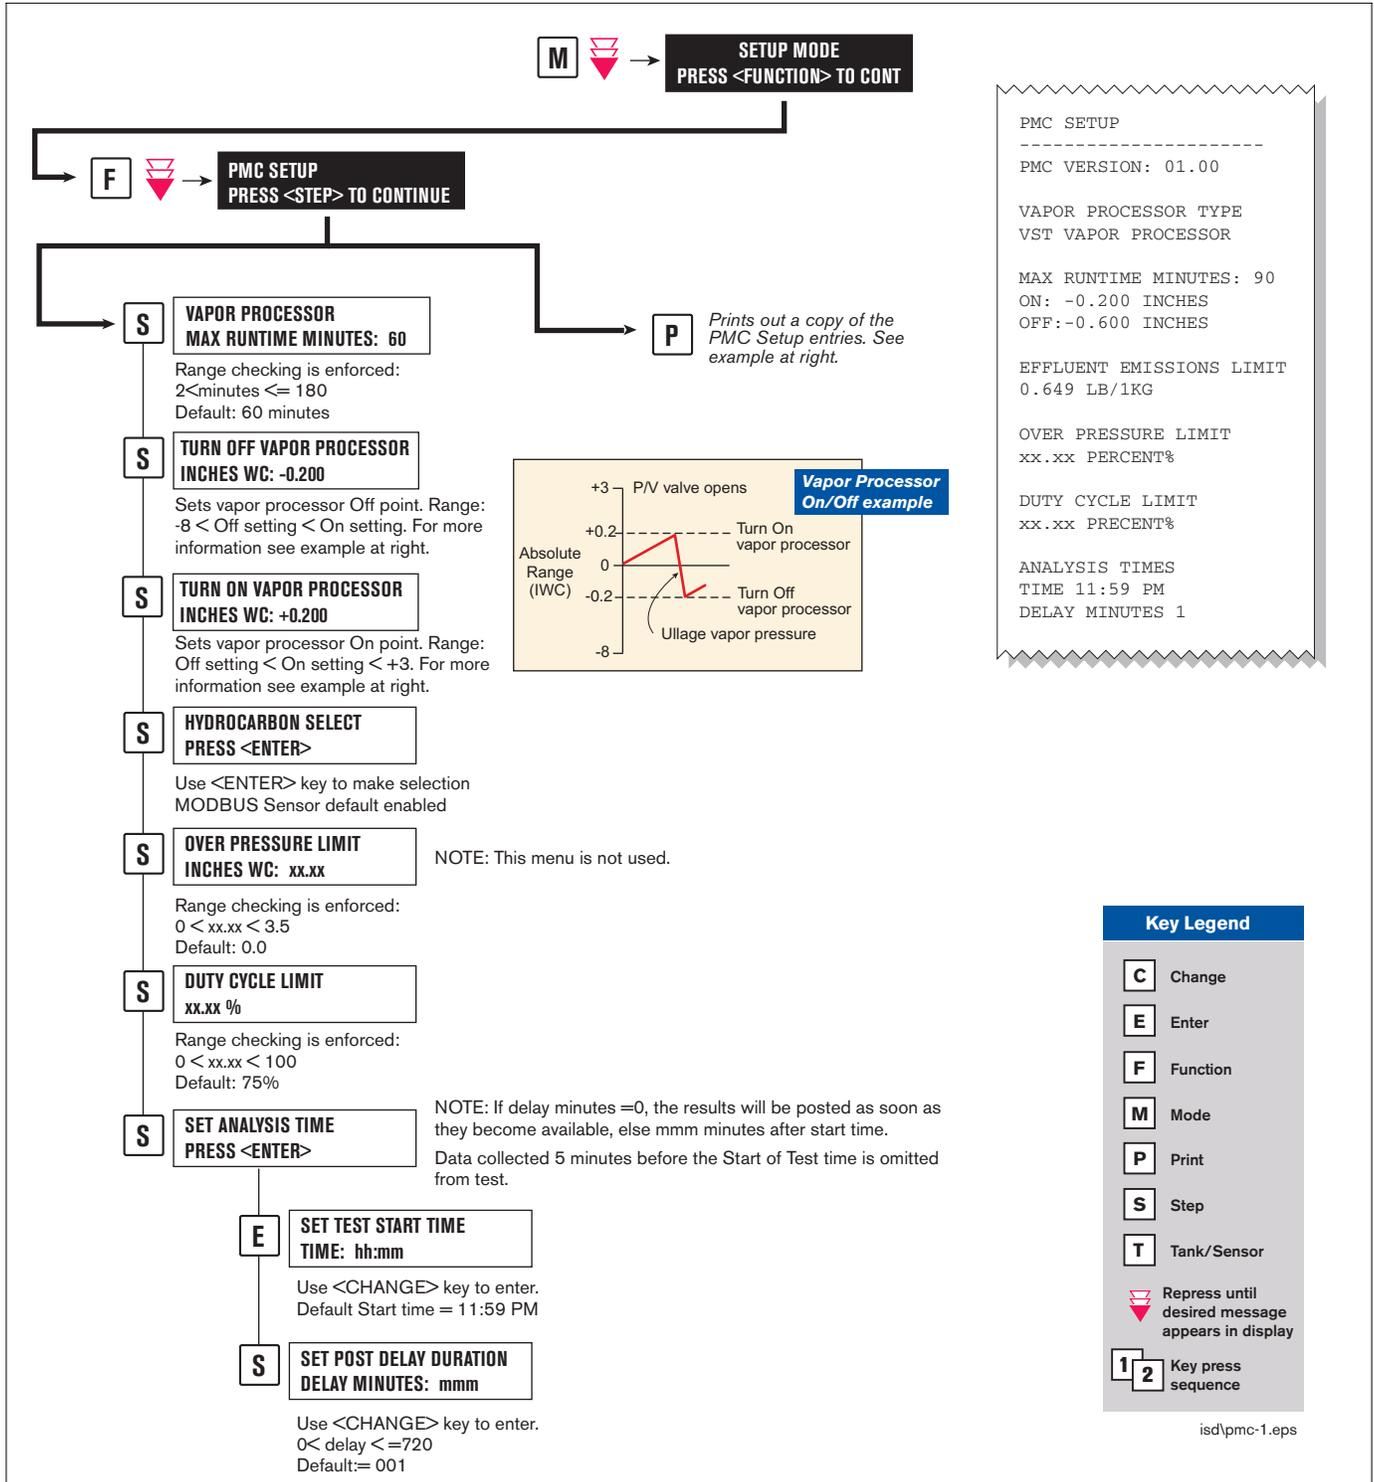

Figure 3. PMC Setup
- Figure 3. PMC Setup 6
Figure 3 diagrams the PMC setup programming.